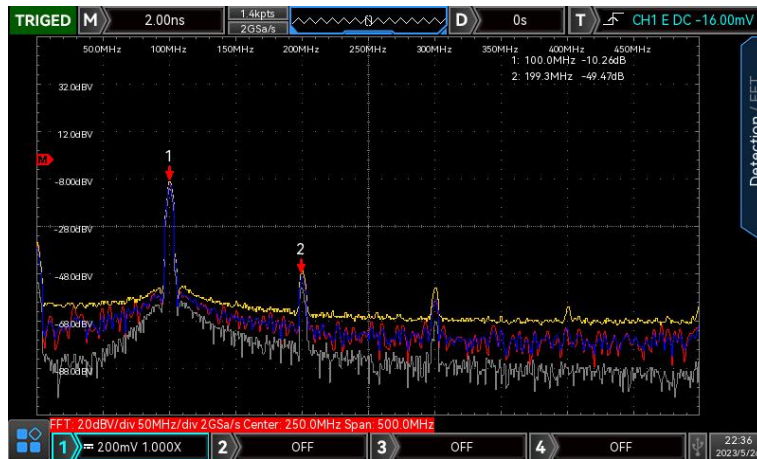

Figure 15-2
- c. Independent screen: Only display FFT wave for observing frequency spectrogram more clearly, as shown in Figure 15-2.